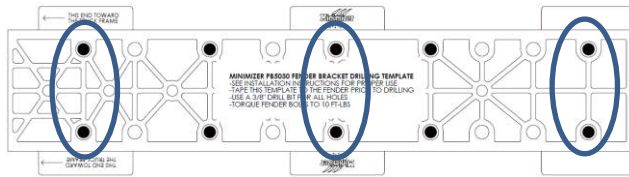

Figure 18
- a. Drill six 3/8" holes through the fender. Use the paper template as a guide at the locations circled below in Figure 18. One template is provided for every PB5030 bracket.